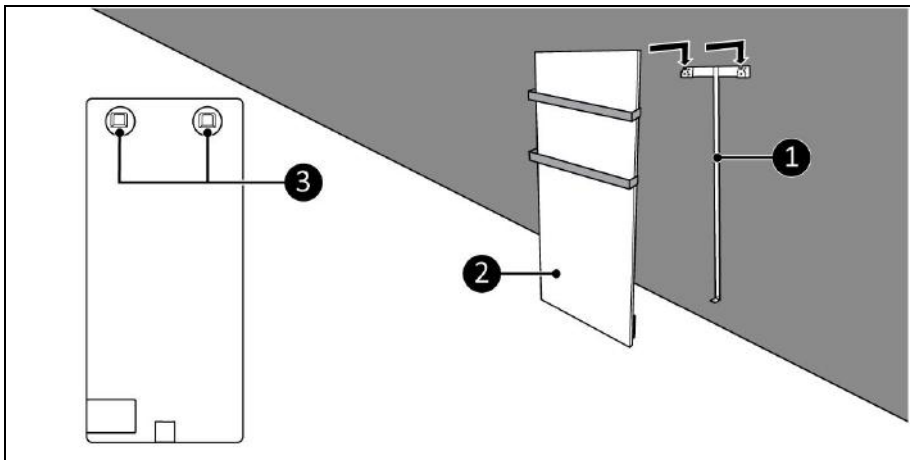

Figure 11
11. Place the device brackets (Figure 11, pos. 3) over the wall bracket (Figure 11, pos. 1).
12. Slide the device (Figure 11, pos. 2) into the openings of the wall bracket.